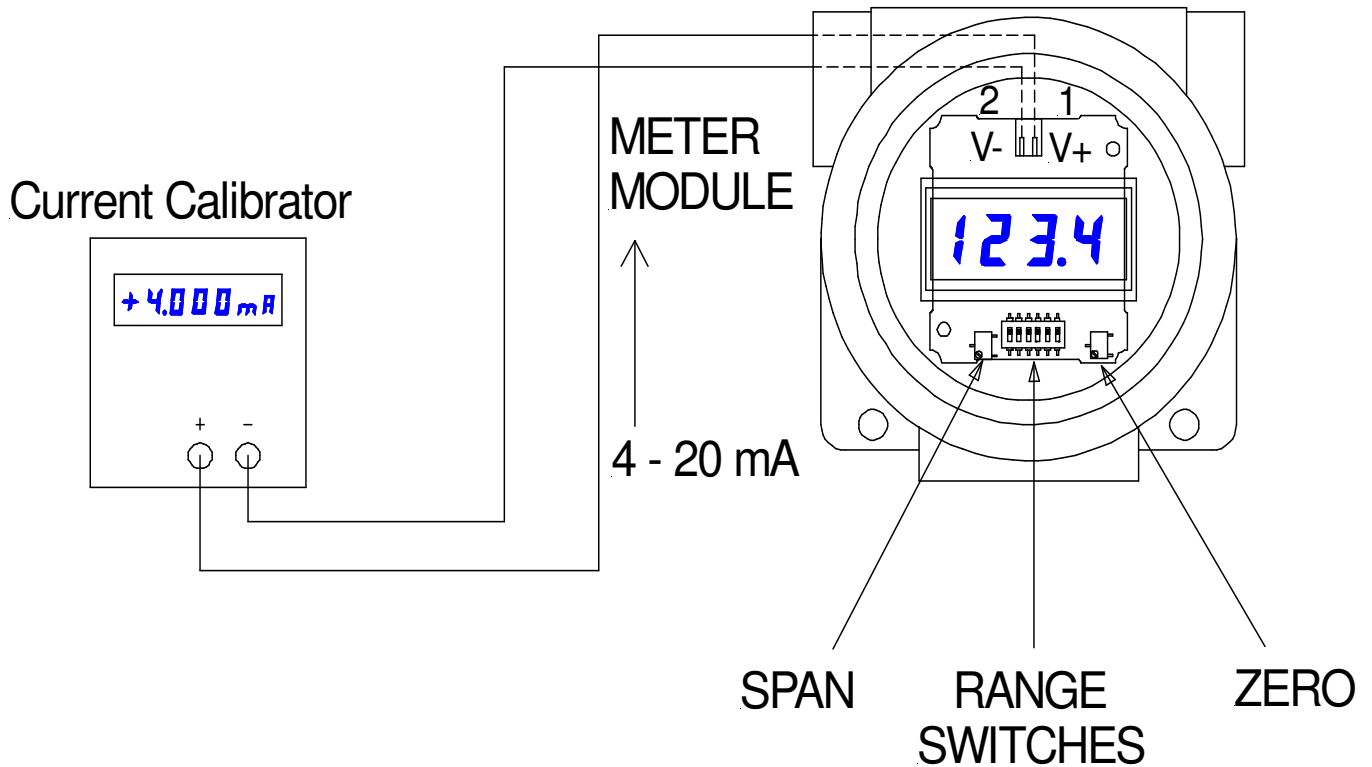

Figure 4
1. Hook-up the equipment as shown in Figure 4. Remove thumbscrews that secure the meter bezel. Remove the two hex screws that hold the meter in the housing. Pull terminal block off from PC board, screw wires onto block, then re-plug block onto board.